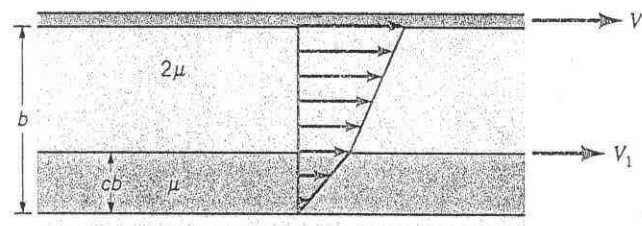

FIGURE P1.75
1.75 Two flat plates are oriented parallel above a fixed lower plate as shown in Fig. P1.75. The top plate, located a distance b above the fixed plate, is pulled along with speed V . The other thin plate is located a distance cb , where $0 < c < 1$, above the fixed plate. This plate moves with speed V_1 , which is determined by the viscous shear forces imposed on it by the fluids on its top and bottom. The fluid on the top is twice as viscous as that on the bottom. Plot the ratio V_1/V as a function of c for $0 < c < 1$.